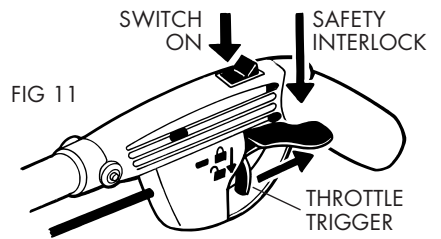

FIG 11
1. Switch engine on (Fig. 11).
6. Throttle Trigger (engine accelerator control) is operated by pushing down interlock with thumb and pulling on trigger (Fig. 11).
4. **Use both arms extended downwards**, as in Fig. 16, hold both handle grips firmly. Switch motor on by pushing down safety interlock with thumb and pulling trigger (Fig. 11). Do not overload motor, allow it to run freely. To stop blades rotating, release trigger.